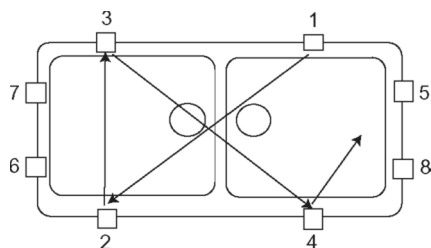
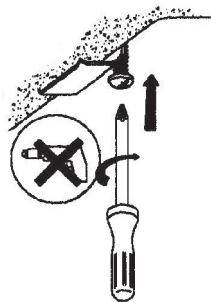

Fig.4
Fig.5
7. Lightly tighten clips. Finally, securely tighten all clips in the order as shown in Fig.4. Tightening in this order keeps the sink from twisting as it is secured. The tightening is to be done with a screwdriver by hand, not with an electric screwdriver or drill with screwdriver attachment. (Fig.5)